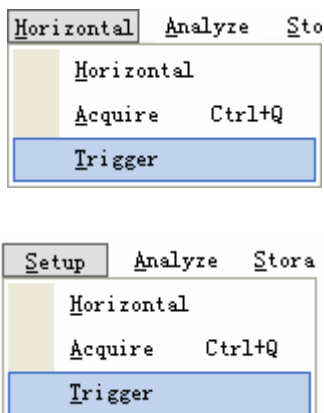

Figure 1-16
2. Click the **T** button, turn the **Trigger** window on (Figure 1-16), to set the trigger options.